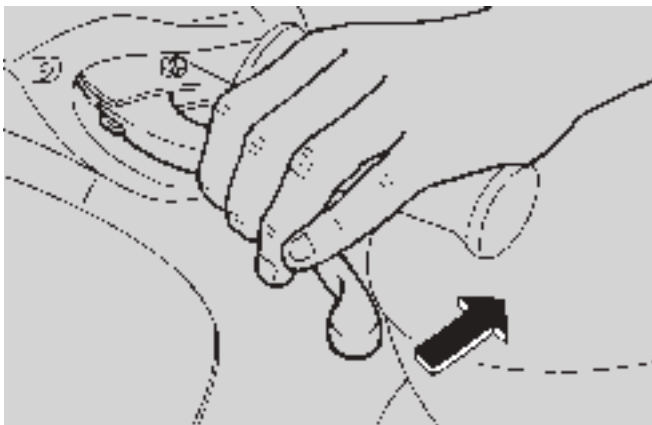

Fig. 20
- ◆ Lock at least one wheel, by pulling a brake lever (Fig. 20). If this operation is not carried out, the start relay receives no current and therefore the engine does not start.
- ◆ To avoid losing control of the vehicle during the starting, lock both wheels by putting on the brake levers (Fig. 20).